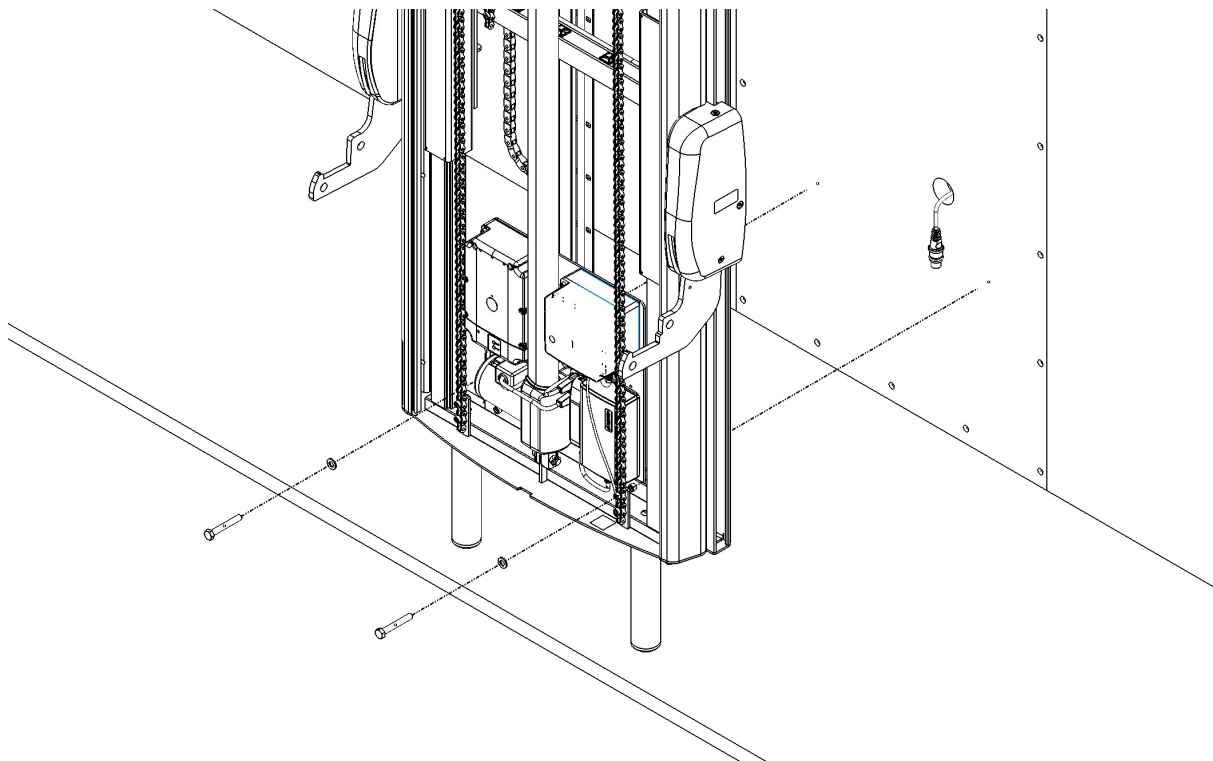

Fig 12.5b
- Using the screws provided No. 8 x 2 23/64" (60 mm) coach screws fit the top three first and then the lower two, as shown in Fig 12.5b.